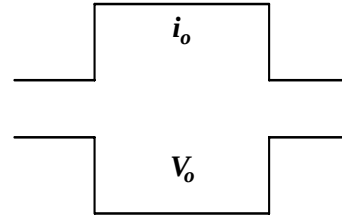
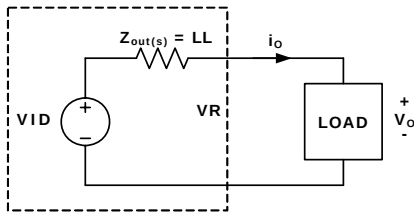

FIGURE 14. DESIRED LOAD TRANSIENT RESPONSE WAVEFORMS
FIGURE 20. VOLTAGE REGULATOR EQUIVALENT
Assuming the compensator design is correct, Figure 14 shows the expected load transient response waveforms if C_n is correctly selected. When the load current I_{core} has a square change, the output voltage V_{core} also has a square response.
Figure 14 shows the desired load transient response waveforms. Figure 20 shows the equivalent circuit of a voltage regulator (VR) with the droop function. A VR is equivalent to a voltage source ($= V_{ID}$) and output impedance $Z_{out}(s)$. If $Z_{out}(s)$ is equal to the load line slope LL , i.e. constant output impedance, in the entire frequency range, V_o will have square response when I_o has a square change.